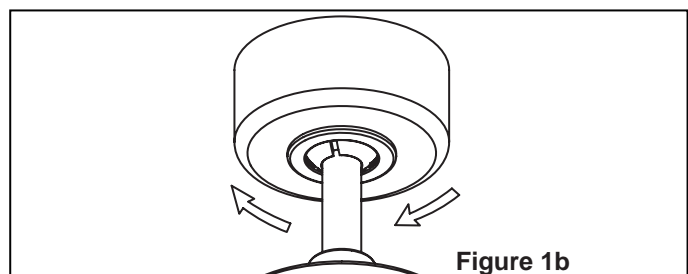

Figure 1b
- 2. Securely attach and tighten the canopy screw cover over the shoulder screws in the hanger bracket utilizing the keyslot twist-lock feature (Figure 1b).